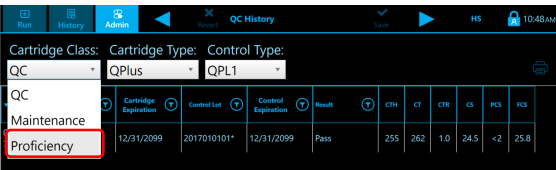

Figure 14. Step 4 Quantra Reference Screen.
4. Select **Proficiency** from the **Cartridge Class:** Drop-Down Menu (Figure 14).